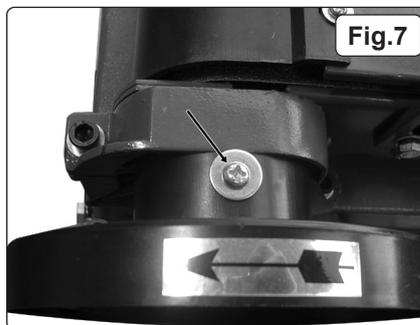

Fig.7
- 7.5.4. Undo the upper and the lower cover screws and remove the disc belt cover (fig.7 & 8).